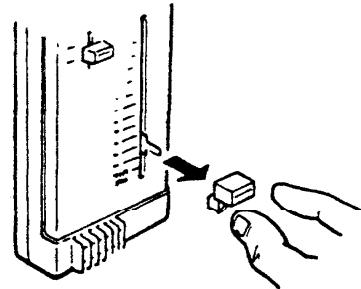

Fig. E-9H
- Pull off the thermostat knob. Fig. E-9H.